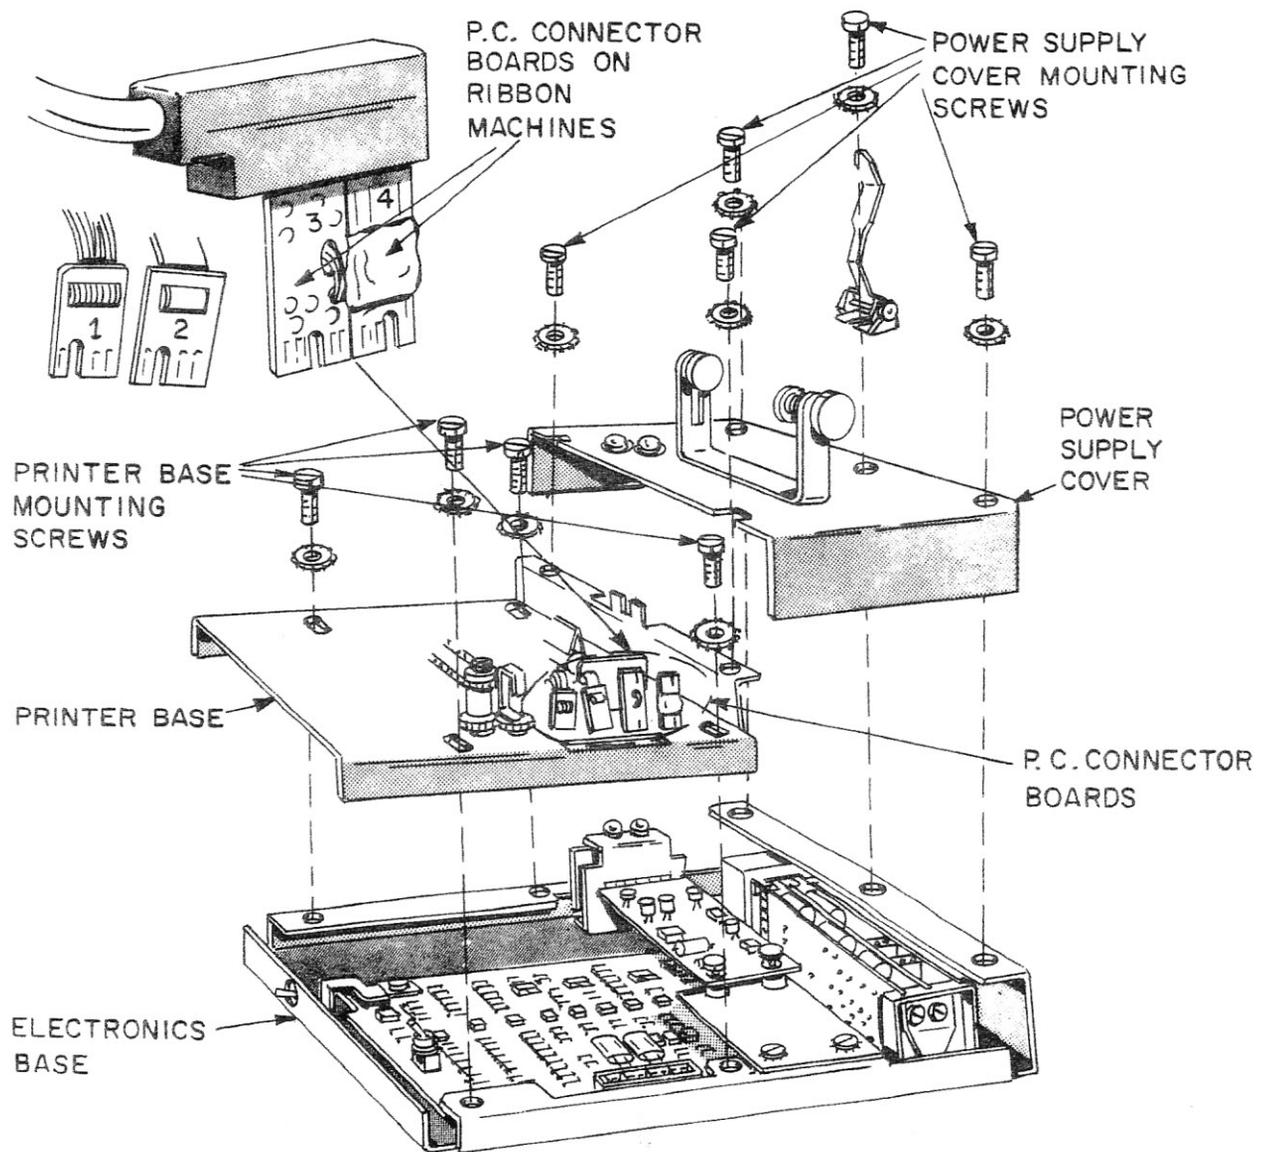
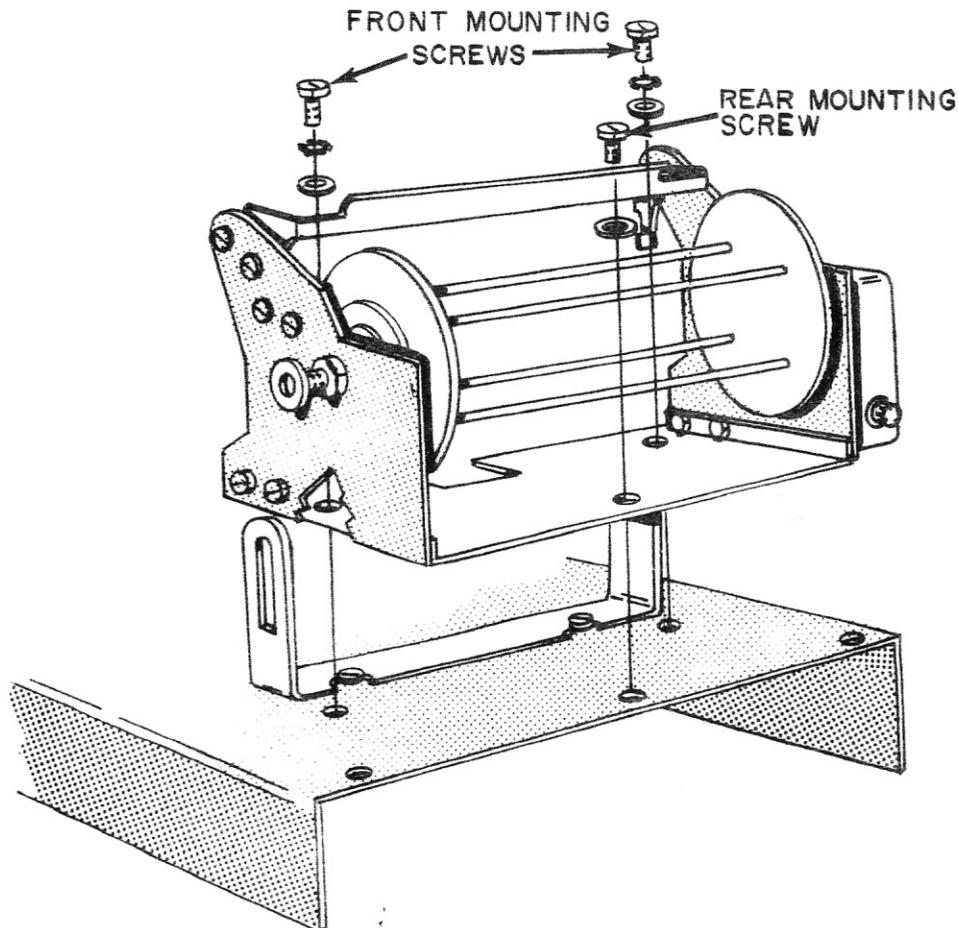

Figure 2-16. Removal of Power Supply Cover and Printer Base
Figure 2-17. Paperwinder Installation Diagram
- (1) Remove the Typing Unit Cover as directed in Sub-paragraph "a" above.
- (2) Note the orientation of ~~and tag~~ the four P.C. Connector Boards to the right of the typing unit. **Consult Figure 2-16.**
- (3) Disconnect the four P.C. Connector Boards at the right side of the Typing Unit by simply pulling upward on each of them. [NOTE: Machines having ribbon mechanisms have an additional connector attached to the top of two of the P.C. Connector Boards. This connector can be removed together with the other boards, and must be re-installed as shown in **Figure 2-16** when re-assembling unit.]
**Consult Figure 2-16 as you Proceed.**
- (4) Remove the five Power Supply Cover mounting screws located on the top of the unit in the Paper Roll Bracket area.
- (5) Grasping the sides the the Power Supply Cover, lift upward to remove the cover. **This exposes the Power Supply printed circuit boards.**
- (6) Remove the four printer base mounting screws, securing the Printer Base to the Electronics Base.
- (3) Remove and discard the three machine screws along the top rear edge of the Power Supply Cover. See Figure 2-16.
- (4) Position the Paperwinder Mounting Bracket over the Power Supply Cover so all three mounting holes are properly aligned.
- (5) Using the two 8-32 x 15/16 machine screws, No. 8 lockwashers, and No. 8 flatwashers supplied with the Paperwinder Assembly, temporarily secure the front of the Paperwinder mounting bracket to the Power Supply Cover. See Figure 2-17.
- (6) Using the 6-32 x 3/8 pan-head machine screw and large flat washer supplied with the Paperwinder Assembly, secure the rear center position of the Paperwinder mounting bracket to the Power Supply Cover. See **Figure 2-17**.
- (7) Assemble the Paperwinder Take-up Reel by inserting the tapered ends of each pair of rods into their respective holes in the opposite reel disc.
- (8) Pull outward on the spring-loaded knob and hold it firmly while seating the motor drive shaft into the center of the left hub of the Take-up Reel and aligning the right hub of the reel with the spindle in the spring-loaded knob. Release the knob.
- (9) Follow procedure outlined in **Paragraph 3-2b** for loading paper roll into machine.
- (10) If required, slide the Paper Roll Bracket either to the left or right (loosen its two mounting screws using an offset common-head screwdriver) until the left edge of the paper roll is 1/4 or 7/32 of an inch from the left edge of the window opening.
- (11) Adjust the Paperwinder Assembly until approximately 1/32-inch visual clearance exists between the inside face of the right-hand reel disc and the right edge of the paper roll.
- (12) Tighten the three mounting screws to permanently secure the Paperwinder Assembly to the Teleprinter Power Supply Cover.
- (13) Again consult **Paragraph 3-2b** (steps 8-11) of Section 3 for procedure for threading paper into Paperwinder.
- (14) Plug the Paperwinder Power Cord into an AC power outlet of the proper voltage (Check tag attached to power cord) and frequency. Turn both Paperwinder and Teleprinter Power Switches to the ON position.